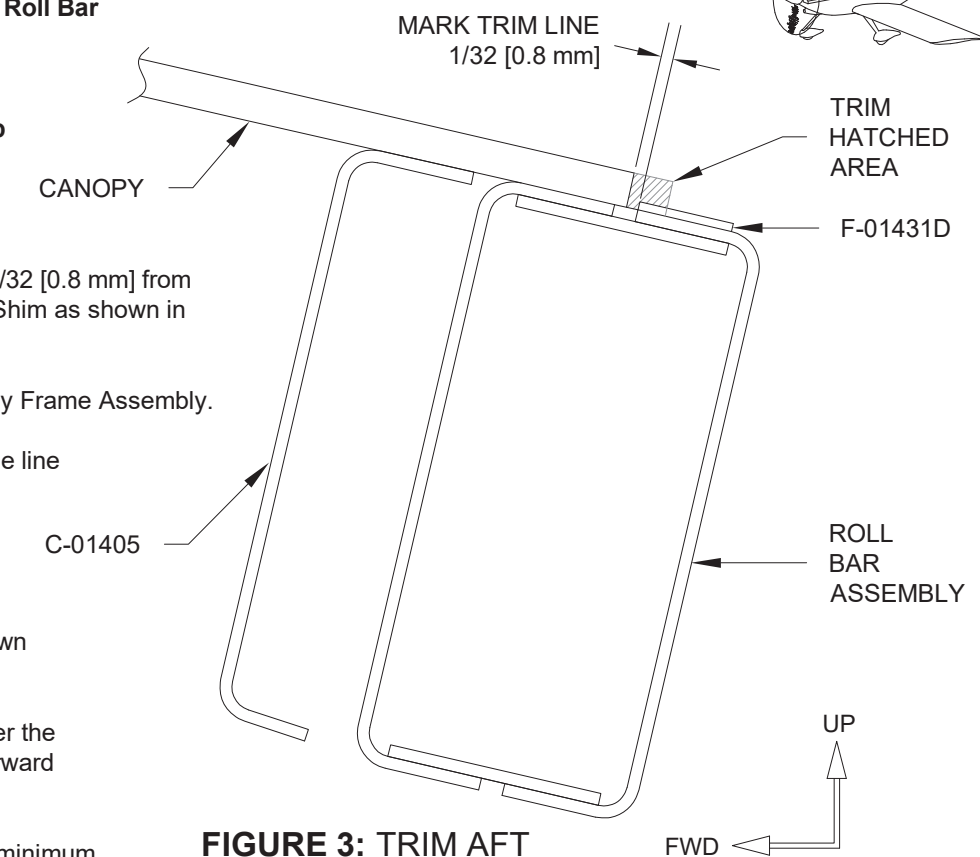

FIGURE 3: TRIM AFT CANOPY EDGE
Step 8: Position the canopy using the template and centerlines. Verify that the aft edge of the canopy clears the forward edge of the F-01431D Window Shim as shown in Figure 3.